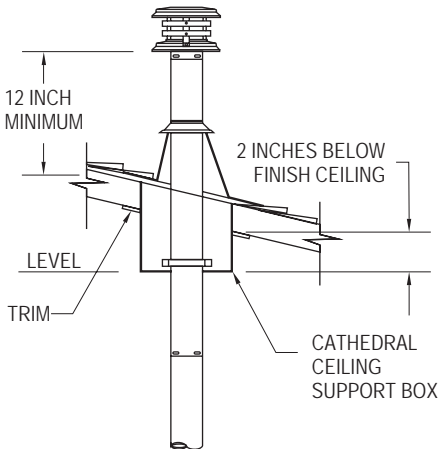

Figure 22
9. Connect the necessary amount of pipe sections to reach the stove at a point where the Cap will be at least 12-inches above the roof (*Figure 22*).